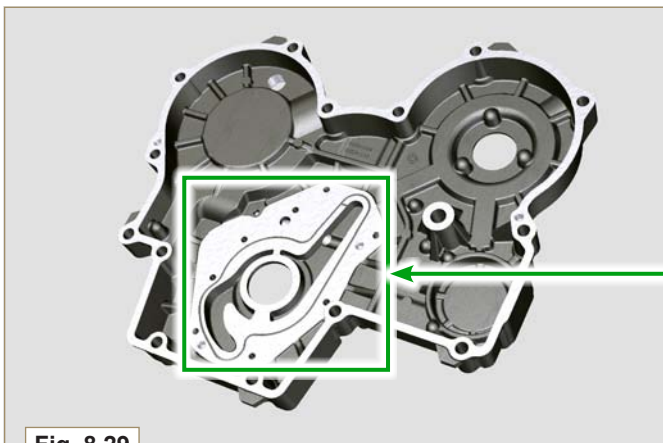

Fig. 8.29
- Replace carter **R** complete with its oil pump, if there are signs of wear in area **P** of surface **Q** (Fig. 8.29 - 8.29a).